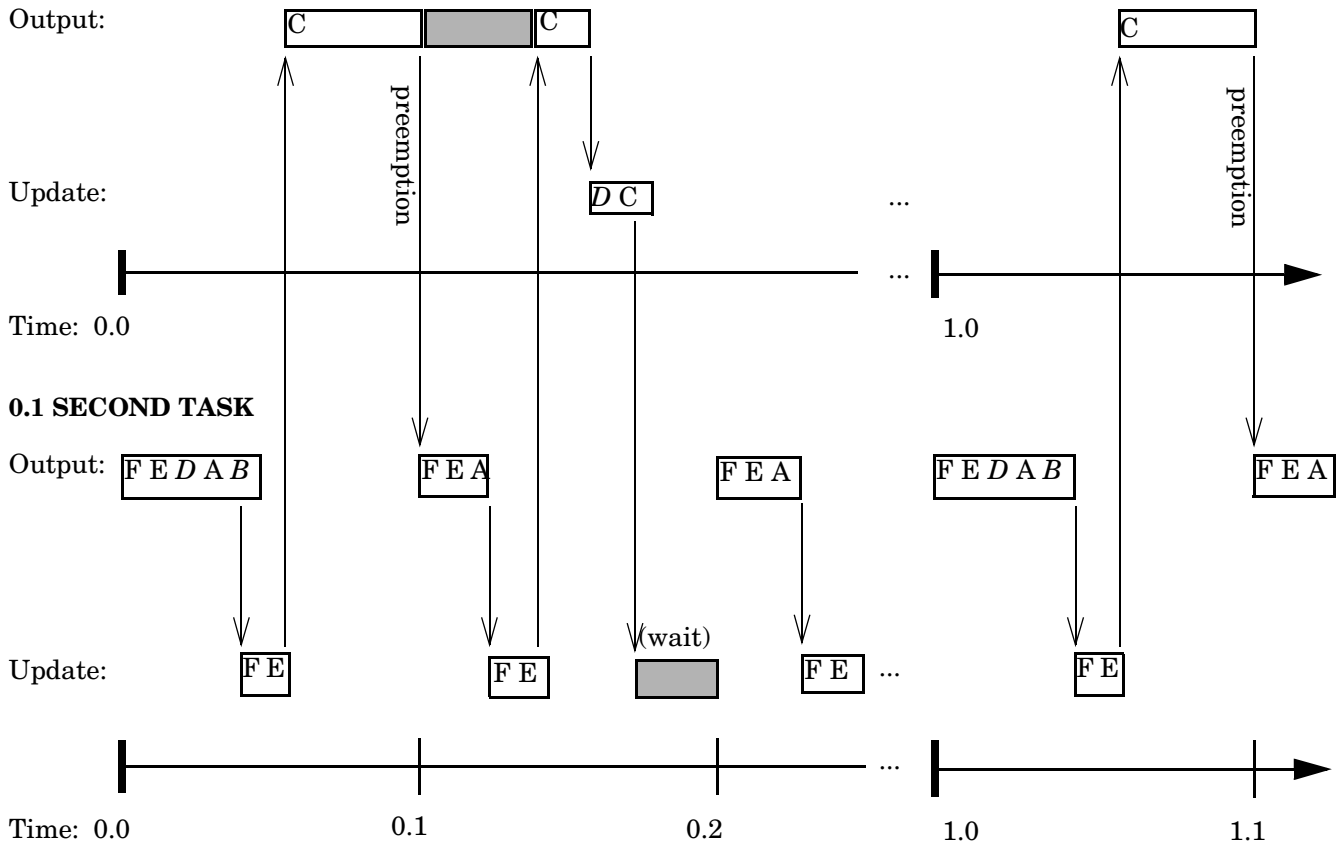

Figure 8-13: Multitasking Execution of Model in a Real-Time System
Figure 8-13 shows the scheduling of computations in MultiTasking solver mode when the generated code is deployed in a real-time system. The generated program is shown running in real time, as two tasks under control of interrupts from a 10 Hz timer.
On each tick, all the outputs and updates for the faster blocks must run before the lower-priority block (C) gets any run time. Only block C runs entirely in the 1 second task. In Figure 8-13, C does not complete its output computation within the first 0.1 second tick, so it is preempted by the higher-priority task at time 0.1. C then resumes and completes, at which point the update function for D is executed. There is then some idle time before the next tick.